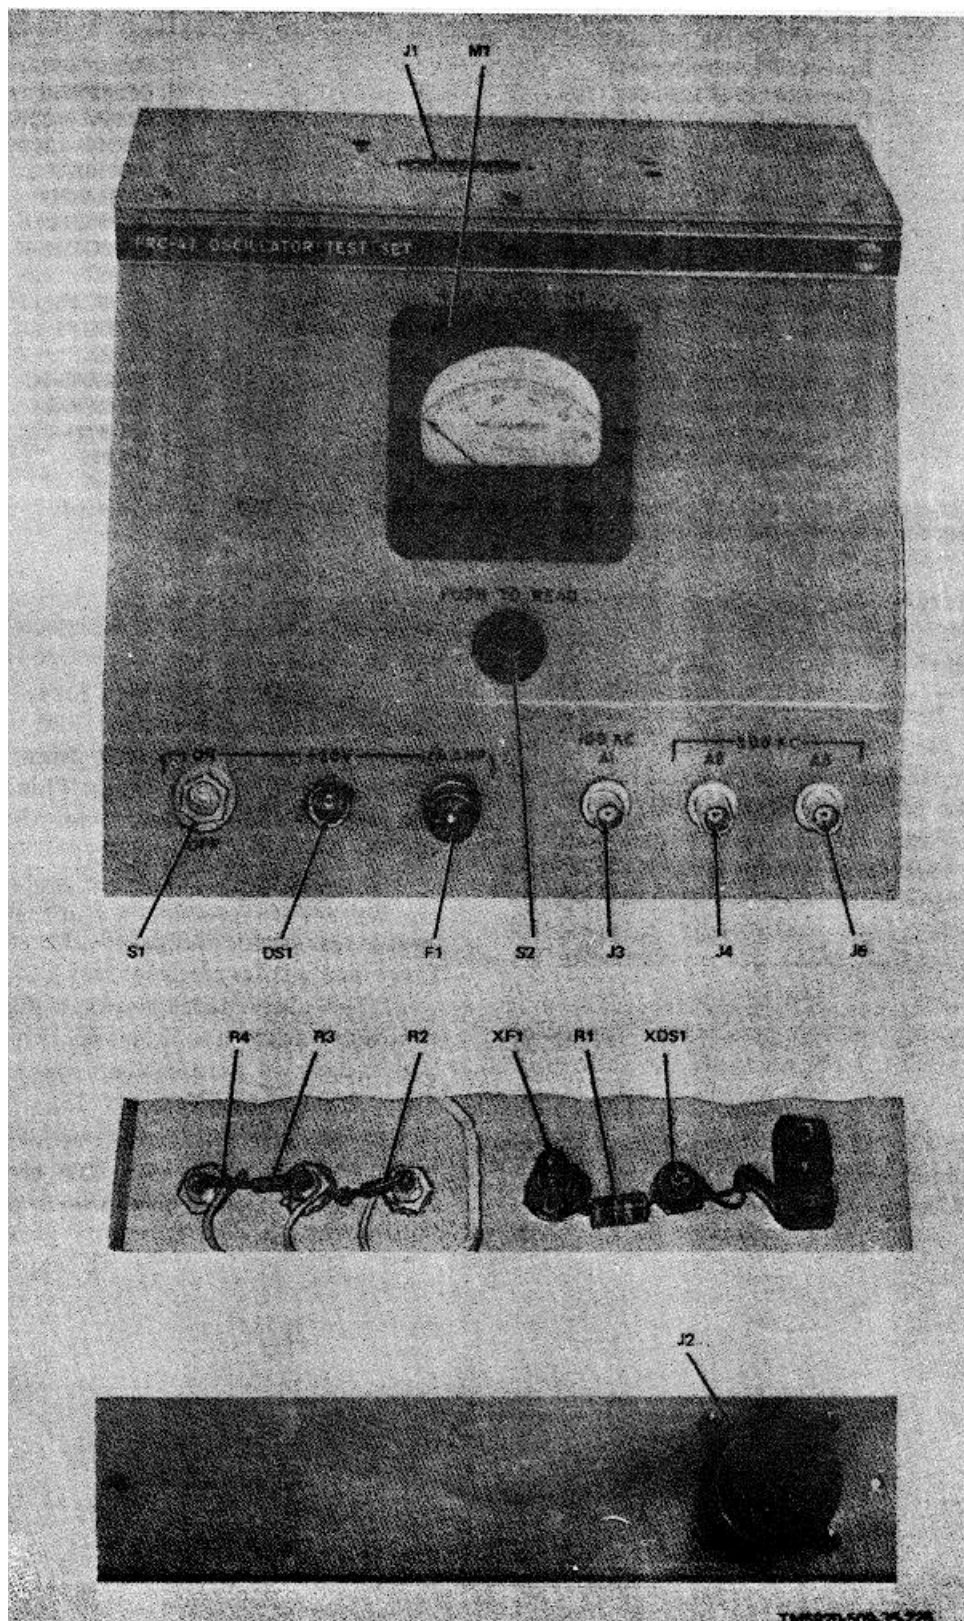

Figure 6-26. Test Fixture for Radio Frequency Oscillator O-1032/PRC-47, Parts location.
(5) PUSH TO READ button. This shunting switch is opened when pressed to permit the +20 V CURRENT meter to indicate the module current drain.
(6) Coaxial connectors are provided for the connection of signal leads and test equipment and these are self-explanatory.
c. The piece parts required for fabrication of the test fixture are listed in the following chart and suggested parts placement is shown in figure 6-26. Schematic diagram {fig. 7-19) illustrates the internal circuit of the test fixture.